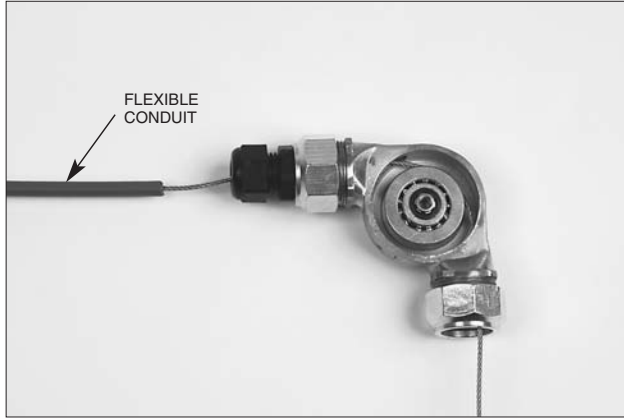

Figure 4-53.
6. Push the wire rope into the flexible conduit. See **Figure 4-53**.